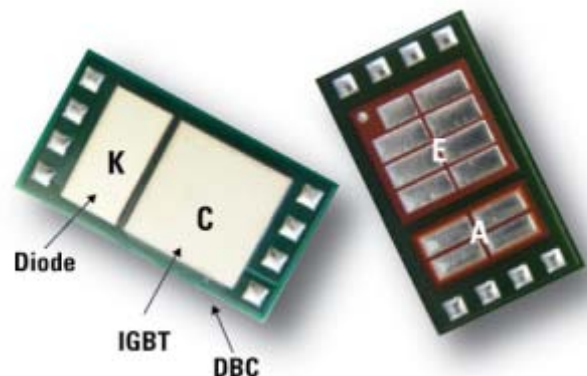

Figure 2: COOLiR²Die™ – a “very large die discrete SMT component”
Two types of COOLiR²Die™ have been developed. As figure 2 shows, one has the emitter (E) side of the IGBT and the Anode (A) side of the diode attached to the substrate, while the other has the collector (C) side of the IGBT and the cathode (K) side of the diode attached to the substrate. Having both of these packages available simplifies inter-switch connections when building Half-bridges, H-bridges or custom power circuits. Typically, the COOLiR²Die building blocks are attached to a ceramic substrate to achieve best heat-transfer characteristics through the top and the bottom of the assembly.